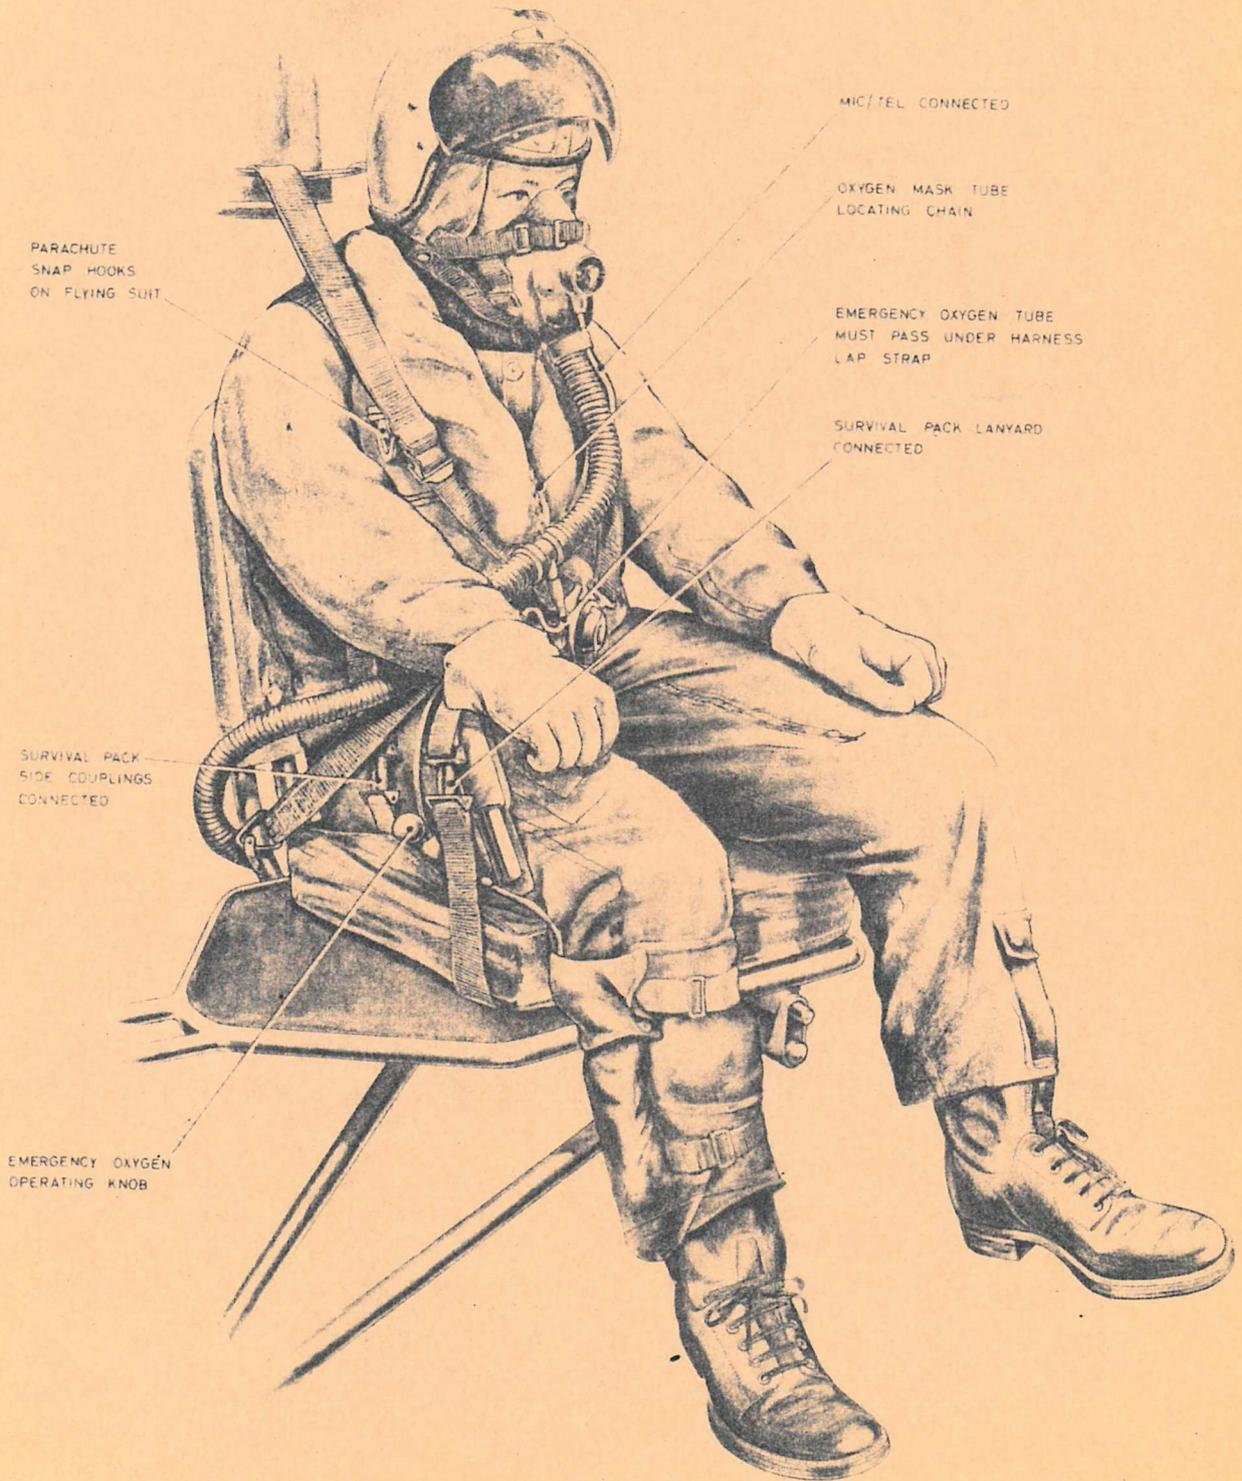

Fig. 8. The folding seat occupied
26. Strapping-in procedure is as follows: refer to fig. 8 for detail as necessary:-